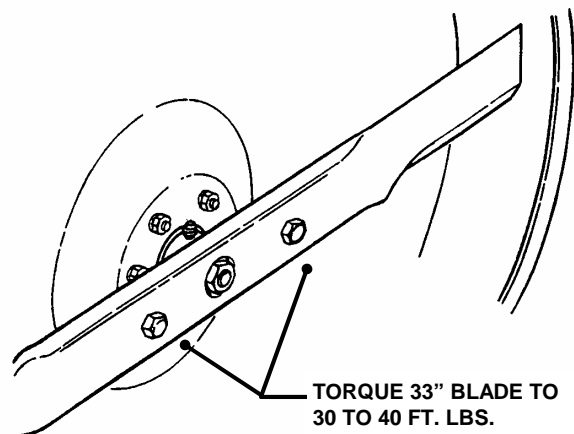

FIGURE 3.2
5. Check torque of blade mounting bolts. Torque 33" deck to: - 30 to 40 ft lbs. See Figure 3.2.